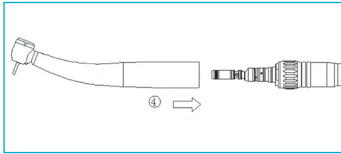

Fig. 6-2
- Tighten the screw cap of the turbine hose with the wrench (delivered with the medical device) (Fig.6-2②③).
- Assemble the medical device accurately on the LED coupling until it audibly locks in the medical device (Fig.6-2④).